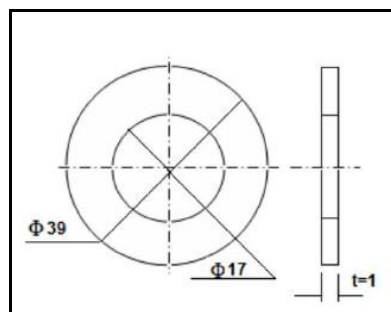

Figure 10.1. Blanking and Piercing operation 1
Perform blanking and piercing operations using Figure 10.1
- Note down the reading of the pressure gauge which directly gives the force required to perform the piercing operation Figure 10.1.